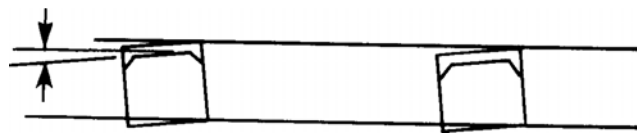

**Figure 6**
*lead twist* — Angular rotation of the bond fingers (see Figure 6).